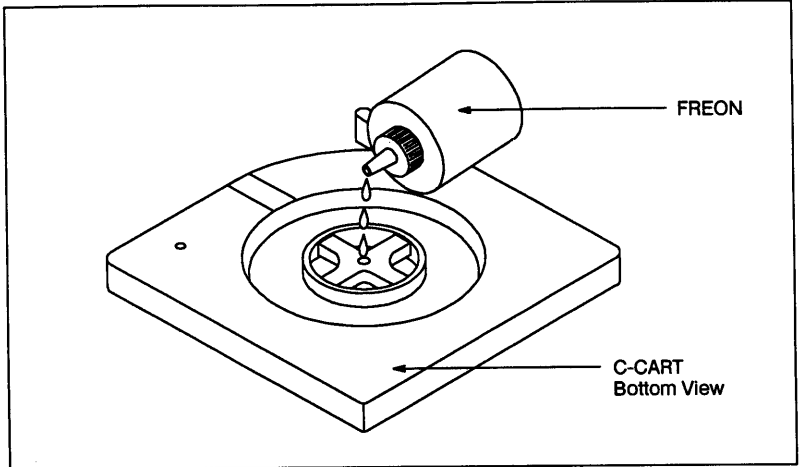

Figure 7-3. Cleaning Fluid Application Procedure
2. Apply two to three drops of Freon-TF to the C-FOAM. See FIGURE 7-3.